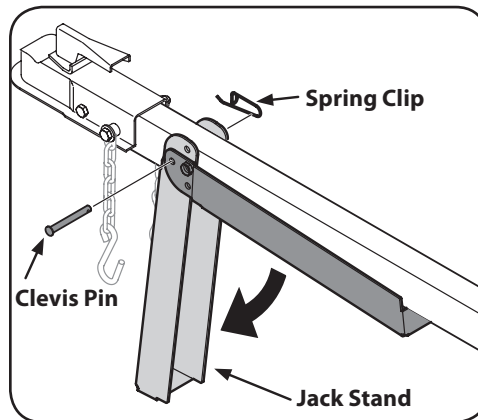

Figure 2-1
6. Always operate this machine from the operator zone(s) specified in the manual. See Fig. 2-1.
7. Remove the spring clip and clevis pin from the jack stand on the tongue and then pivot the jack stand towards the ground into the operating position. See Figure 2-1.
8. Secure the jack stand in position with the clevis pin and spring clip. See Figure 2-1.